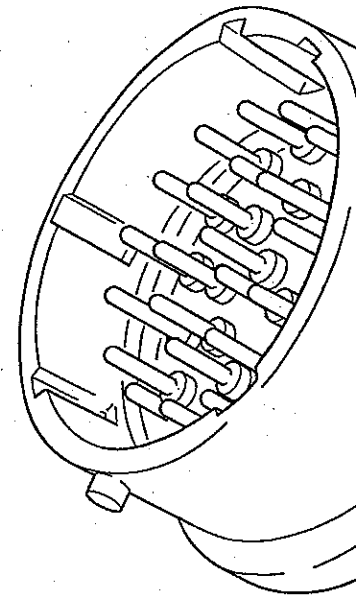
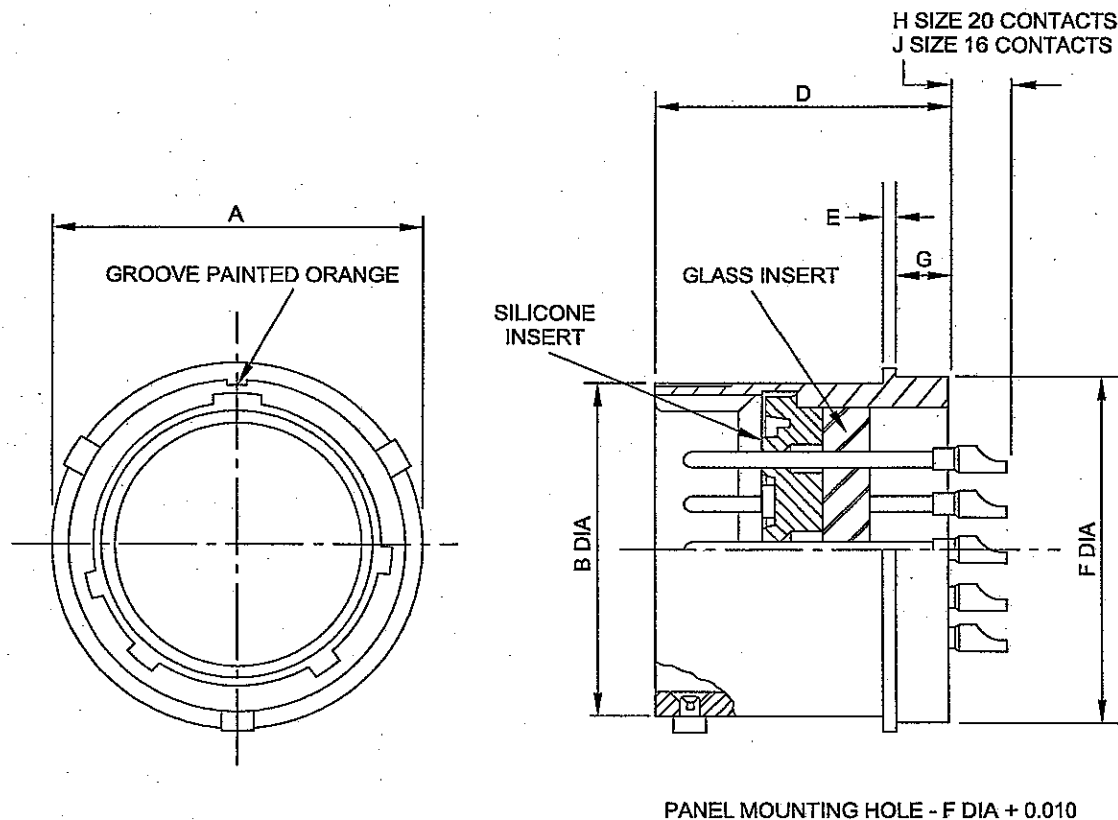

Fig 20 416H Solder mount receiver
Fig 21 461H Solder mount receptacle, dimensions
15.1 The 461H solder mount receptacle (Fig 20) conforms to MS3113 specification. Details are given in Fig 21 and Table 12. The dimension of the panel mounting hole is diameter F, plus 0.010 in.